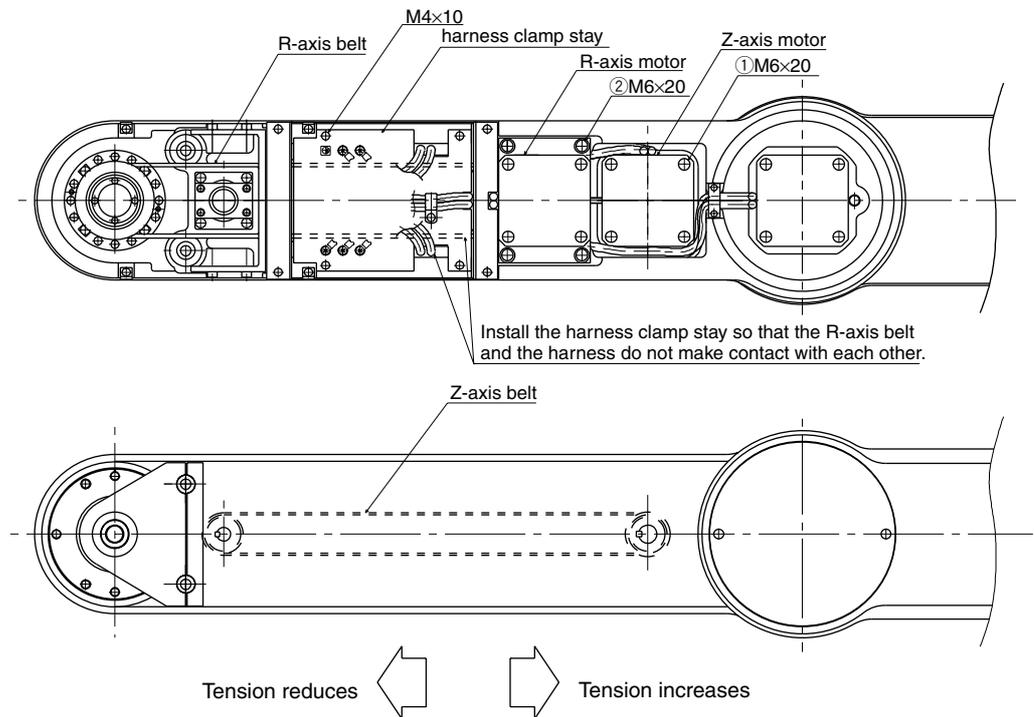

Fig. 4-34 YK1200X
- 6) Remove the bolts (M4×10L, 4 pieces) and then remove the harness clamp stay from the Y-axis arm. (See Fig. 4-34.)
1. Loosen the bolt ① shown in Fig. 4-34.
1. Loosen the bolt ② shown in Fig. 4-34.
- 10) After adjustment is complete, tighten the bolt ① or ② to the torque specified in Table 4-11.
- 11) Reattach the harness clamp stay to the Y-axis arm. (See Fig. 4-34.)